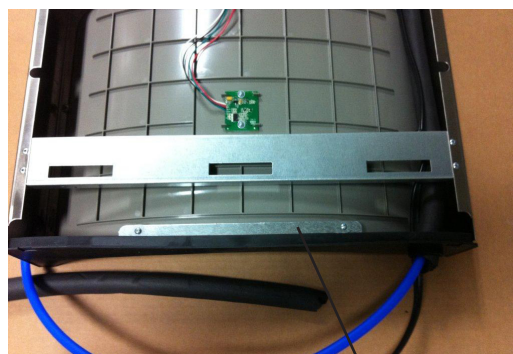

Fig. 10 BRACKET & SCREWS
- 6) Install gasket on bottom of bottle filler tower with gasket support bracket & (2) screws (See Fig 10).